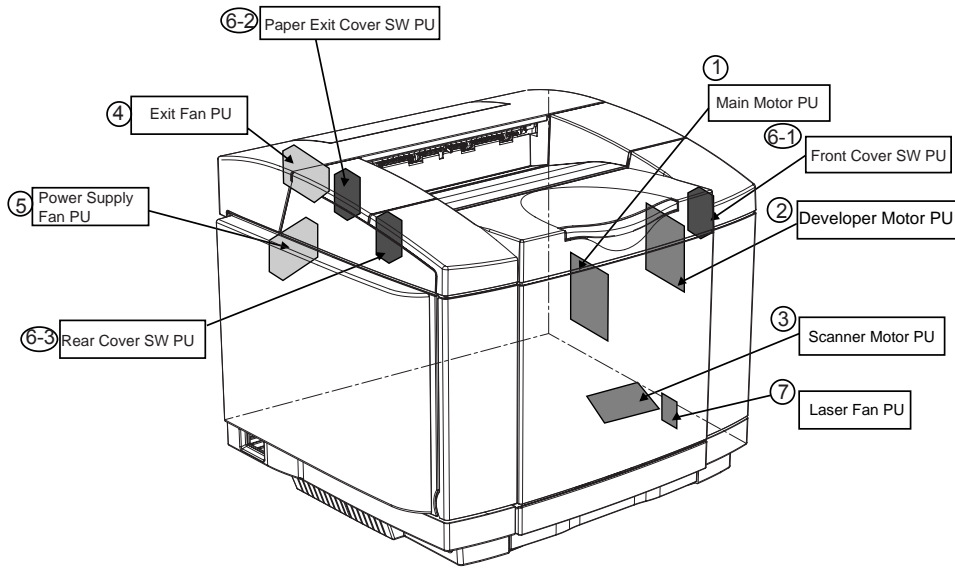

Fig.4-29
(2) Motors (Refer to Fig.4-29.)